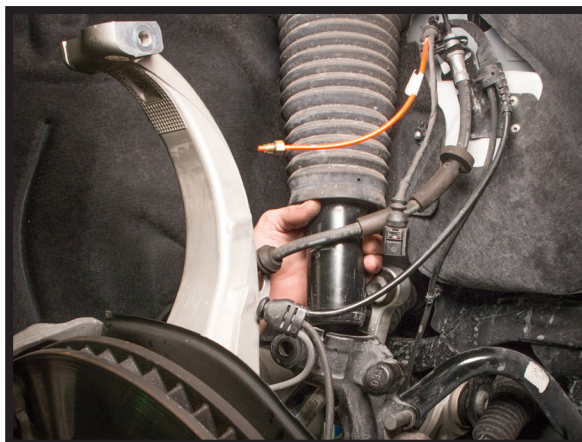

FIGURE 19
15. LIFT THE SHOCK UP AND OUT OF THE LOWER MOUNTING FORK. (FIGURE 19)